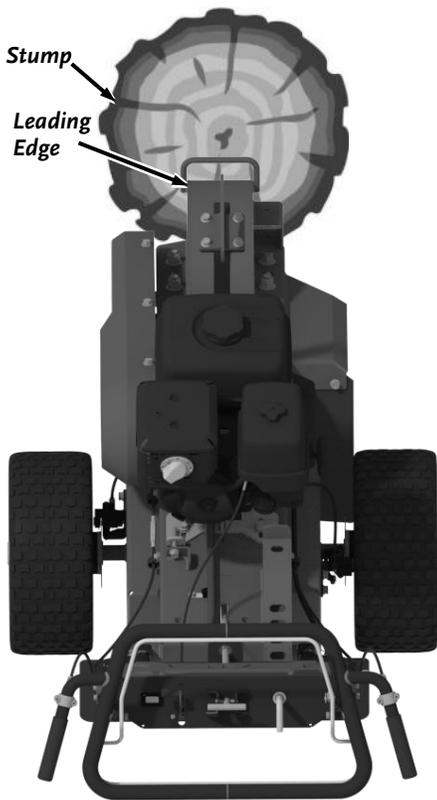

Figure 11
3. Move the Stump Grinder into position with the Cutter Head centered to the Stump and the Leading Edge a few inches beyond the Stump Edge closest to you (**Figure 11 and 12**).